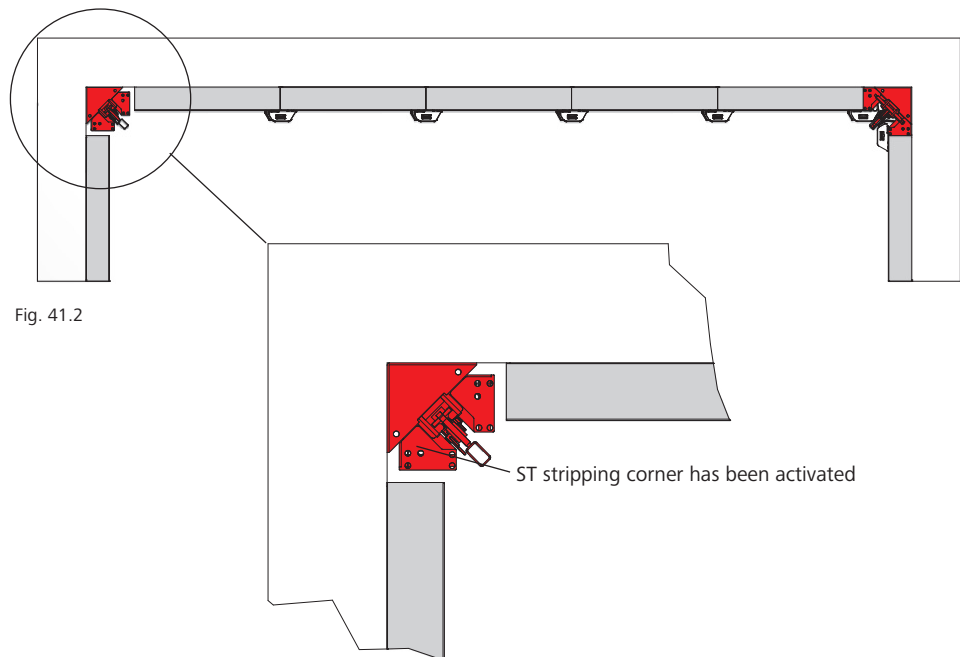

Fig. 41.2
2. Activate the ST stripping corner (Fig. 41.2 and pages ST/AS-38 to -40).